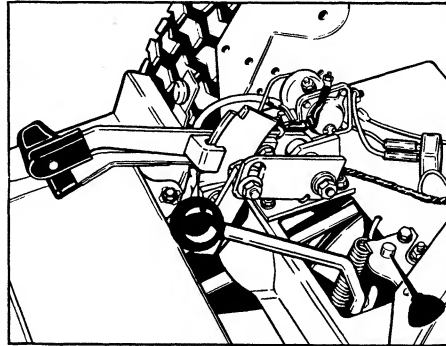

Figure 7. Lubricate the Pivot Points of the Gear Shift Lever
1. Lubricate the tractor and mower as shown in figures 7 thru 13. Where an oil can is pictured, wipe the area clean, apply a few drops of medium weight (SAE 30) oil and then wipe up any drips or spills. Where a grease gun is pictured, wipe the fitting clean, apply two or three shots of lithium base automotive grease, then wipe off excess grease. Keep oil off belts and pulleys.